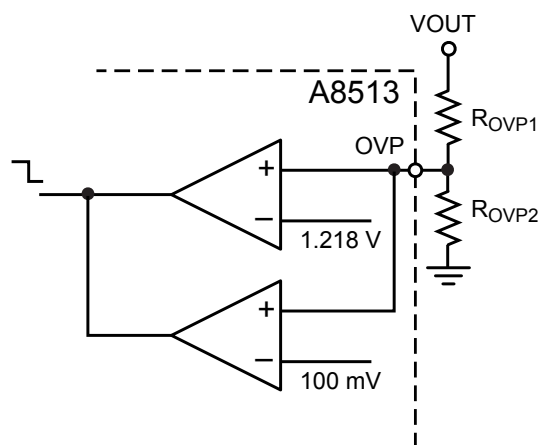

Figure 9. Simplified diagram of the OVP pin functions.
**Overvoltage Protection** The OVP pin has a threshold,  $V_{OVPHI(th)}$ , of 1.218 V. A resistive divider can be used to set the  $V_{OUT}$  overvoltage protection threshold up to 45 V (see figure 9). There is no restriction on the value of the resistor chosen, but it is recommended that the divider current be kept between 10 and 60  $\mu$ A. This will minimize the effect of sense current on the accuracy of OVP and minimize output voltage bleed-off during PWM dimming.